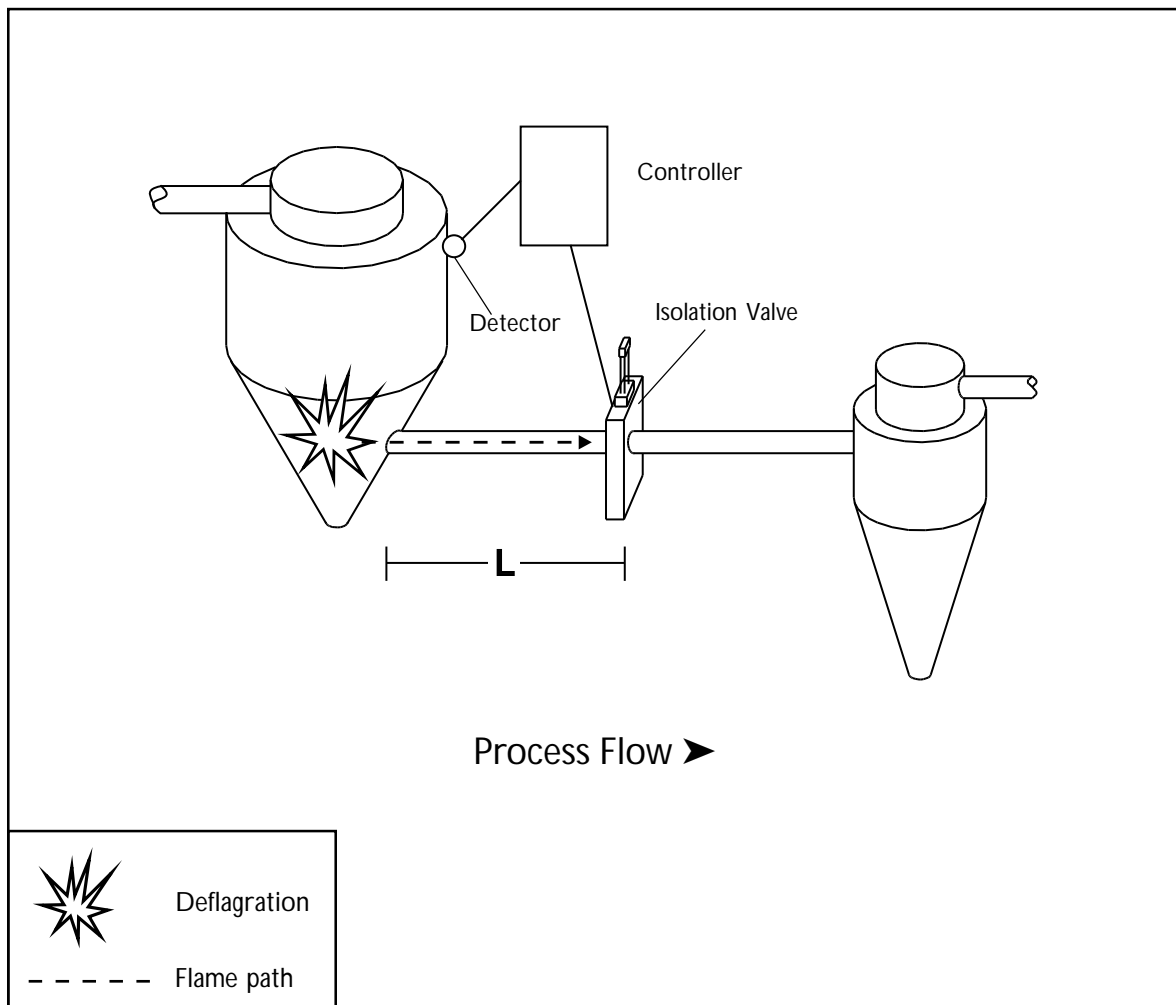

Figure 2: Typical engineered system component placement
- minimal distance required from ignition point. (See Figure 2)